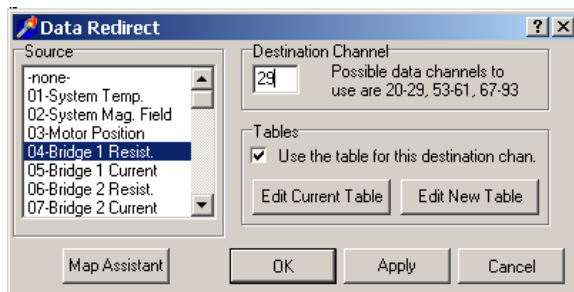

Figure 12. Turning on the channel
- Verify that there is now a check in the text box next to **Use the table for this destination chan** (Figure 12). (If the box is not checked, click in it so that the channel will be turned on, then click on the **Apply** button to save the change.)